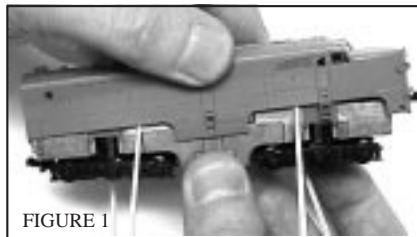

FIGURE 1
1. Remove locomotive shell using tooth picks to hold the shell locking tabs away from the frame. (See Figure 1)